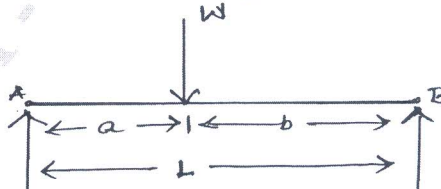

Fig.Q.3(c)
- c. Draw and derive S.F.D and B.M.D for following beam as shown in Fig.Q.3(c). (10 Marks)